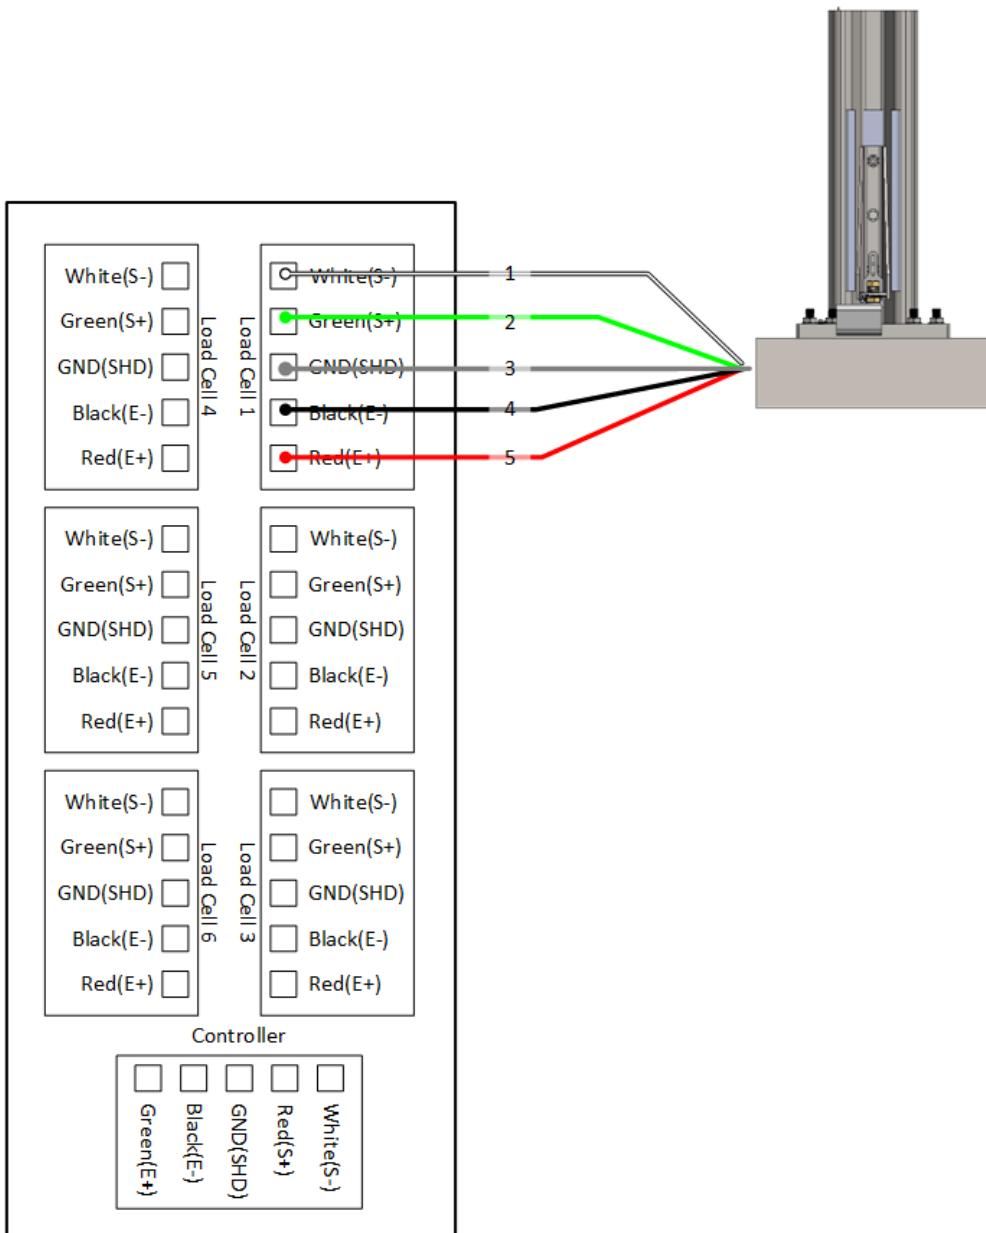

Figure 6: RJB - SiloSenz Wiring
5. Wire the RJB-6 units to the SiloSenz units. Each SiloSenz (load cell) has four-wire shielded cables plus a shield cable (ground). Connect each load cell to the RJB-6 according to the colors inscribed on the RJB PCB board (Figure 6).